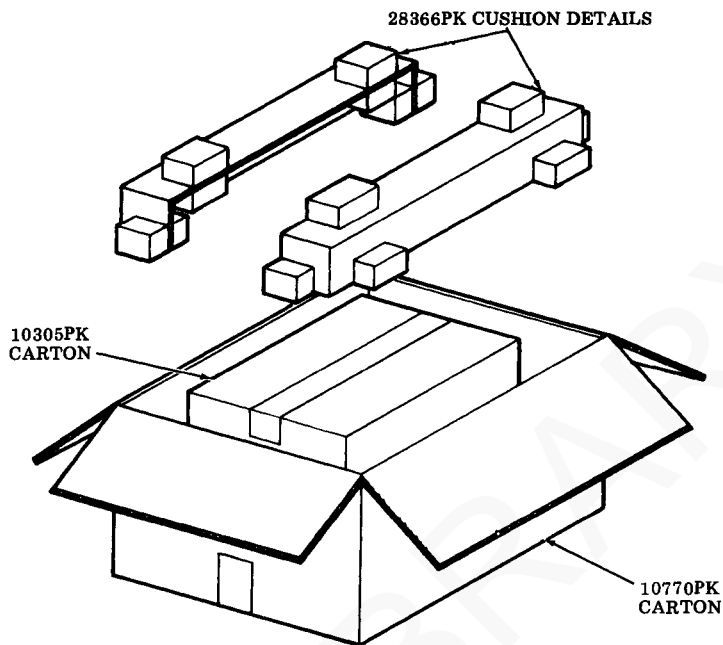

Fig. 22
- Step 6. Form and place one 28366PK cushion detail in each of two sides of the bottom of the carton. See Fig. 22.
- Step 8. Carefully place the 10305PK carton in the 10770PK carton so the cushion details fit in the corners of the 10305PK carton. See Fig. 22.
- Step 12. Form and place a 28366PK cushion detail on each of two sides of the inner carton. See Fig. 22.